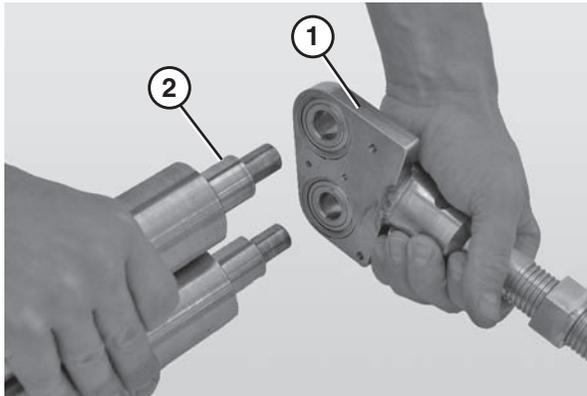

Figure 85
- Slide the nose bar shafts (**Figure 85, item 1**) off the nose bar spindles (**Figure 85, item 2**).